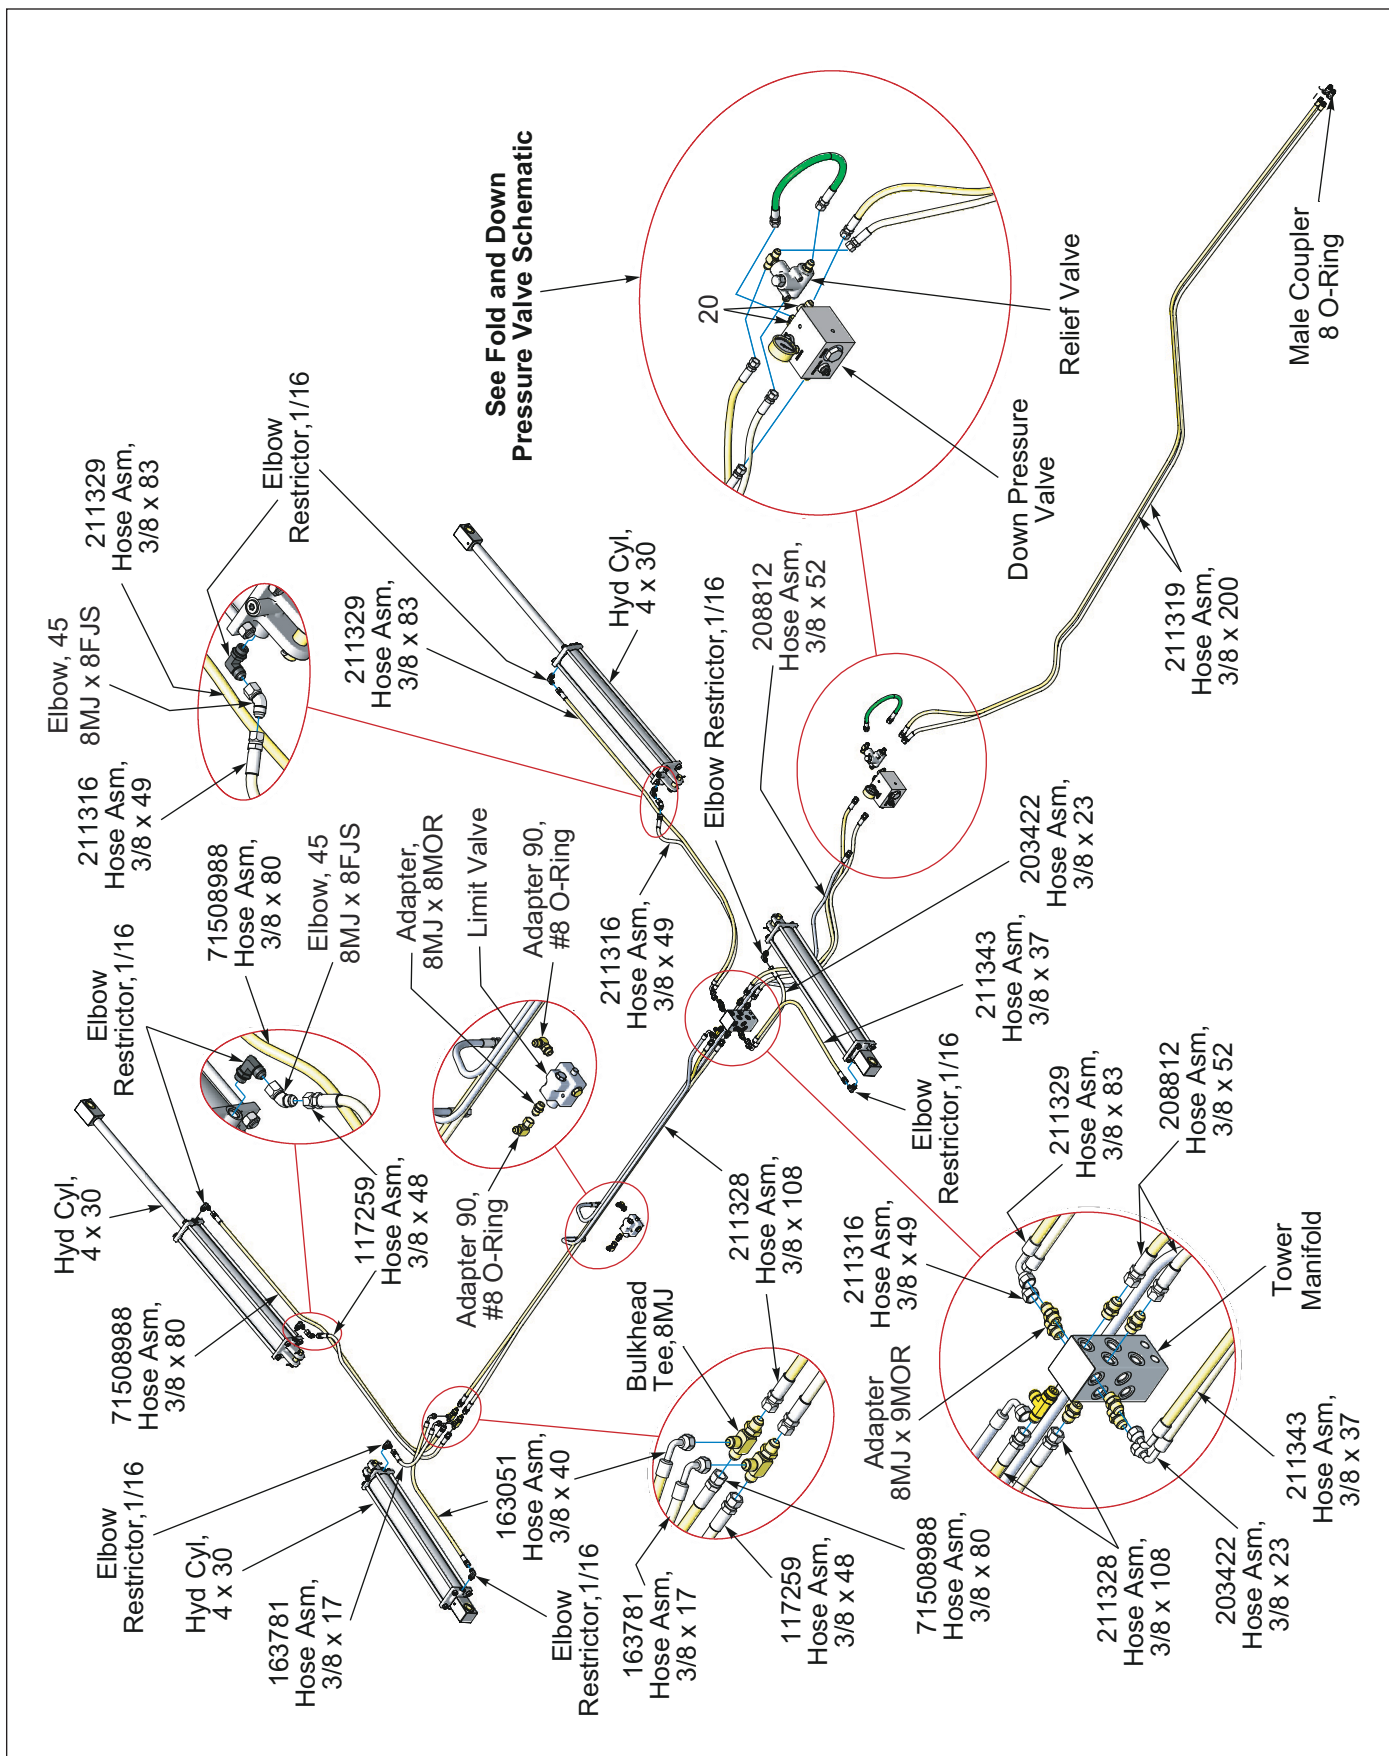

Figure 2-23: Fold Hydraulic Schematic
2. Install elbow restrictors into fold cylinders. **See Figure 2-23.**